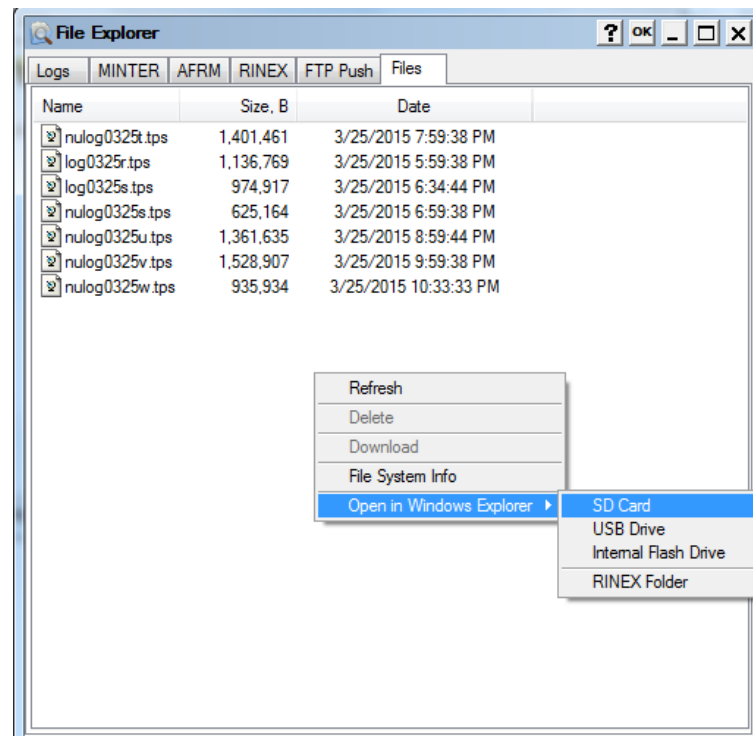

Figure 15: Open the SD Card in Windows Explorer
- Right-click in the **File Explorer** screen, and click **Open in Windows Explorer ▶ SD Card** (Figure 15). An instance of Windows Explorer will open.